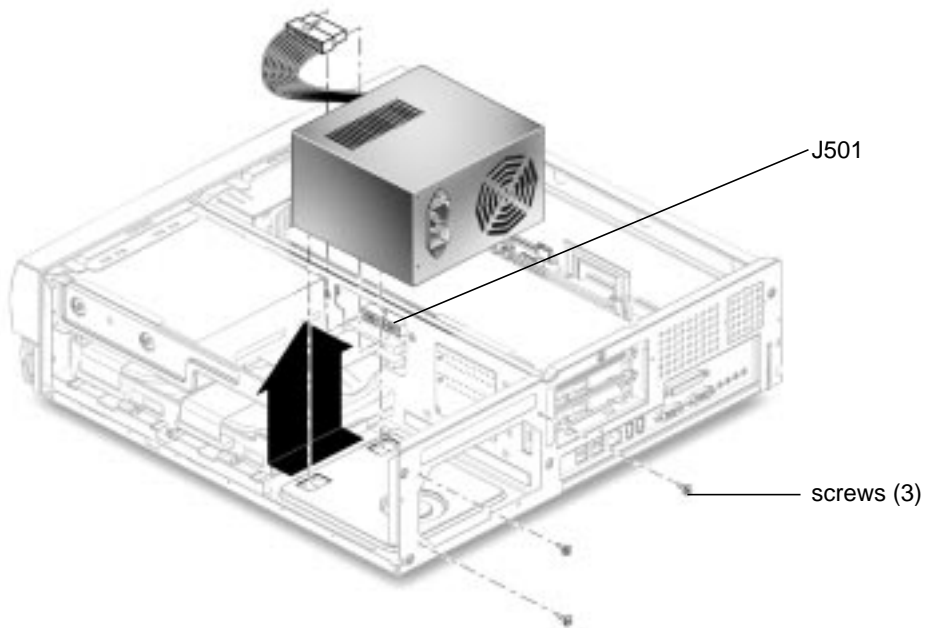

FIGURE 6-1 Removing and Replacing the Power Supply
2. **Disconnect the power cable connector from riser board connector J501 (FIGURE 6-1).**
1. Position the power supply into the chassis, tilting it slightly toward the back of the chassis (FIGURE 6-1).